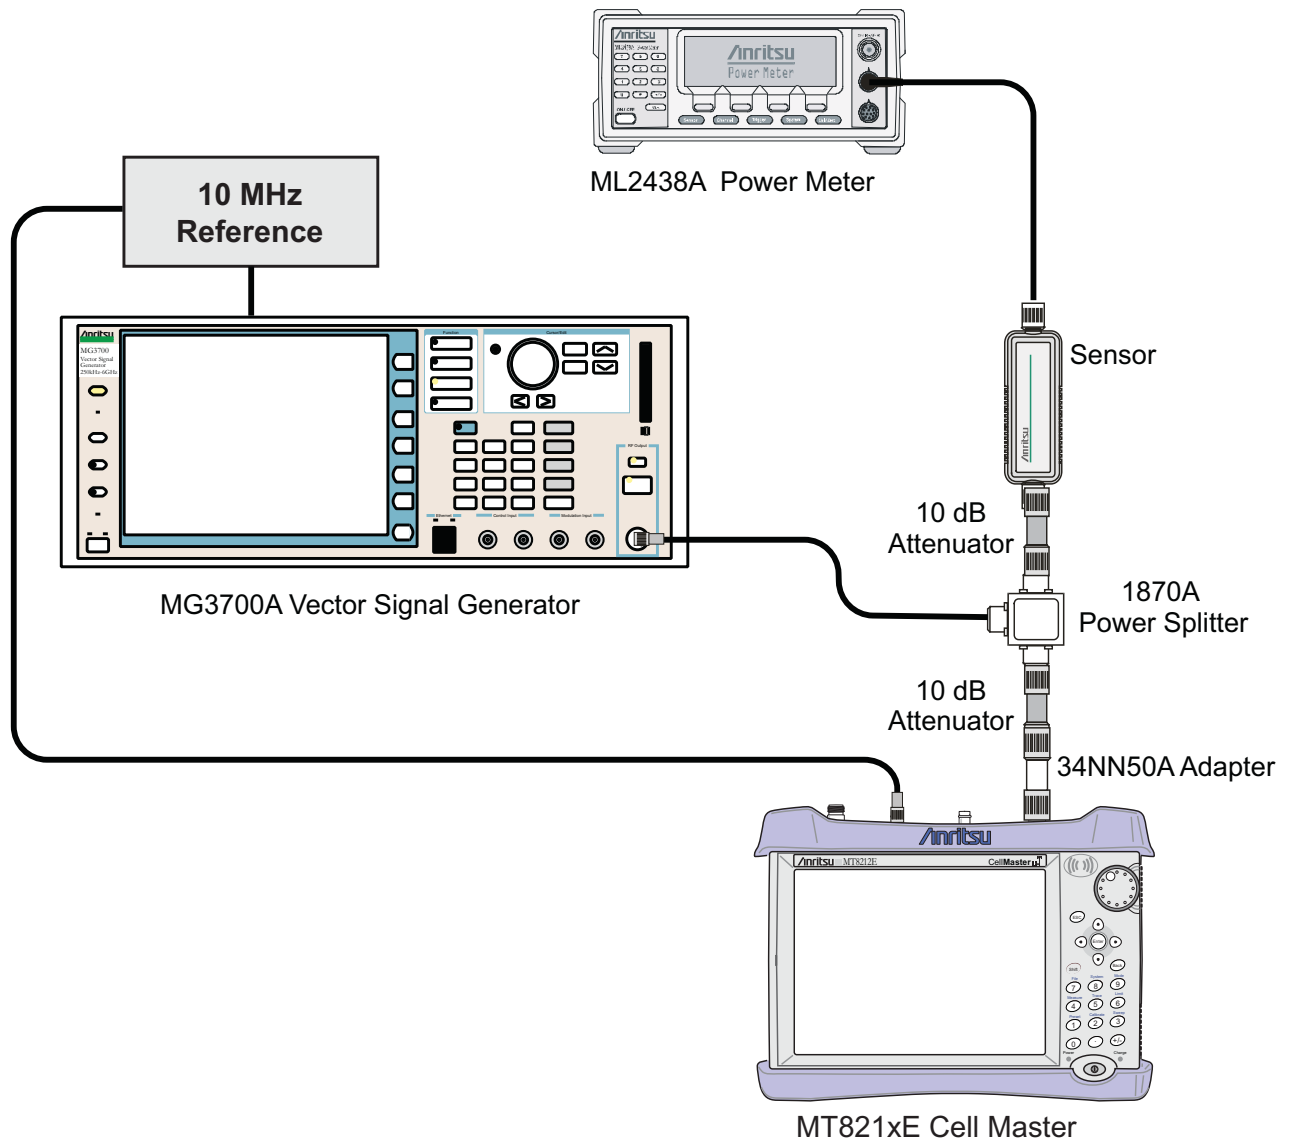

Figure 5-10. WCDMA Occupied Bandwidth (OBW) Verification
3. Connect the MG3700A, splitter, attenuator, power meter, and Sensor as shown in Figure 5-10.
4. Press the **On/Off** key to turn On the MT821xE and wait until the measurement display appears, then press the **Shift** key, and then press the **Mode** (9) key to activate the mode selection menu.
6. Press the **Shift** key, the **Preset** (1) key, and then the Preset submenu key.
3. Connect the MG3700A, splitter, attenuator, power meter, and Sensor as shown in Figure 5-10 on page 5-41.
4. Press the **On/Off** key to turn On the MT821xE and wait until the measurement display appears. Then press the **Shift** key and press the **Mode** (9) key to activate the mode selection menu.
6. Press the **Shift** key, the **Preset** (1) key, and then the **Preset** submenu key.
3. Connect the MG3700A, splitter, attenuator, power meter, and Sensor according to Figure 5-10.
4. Press the **On/Off** key to turn On the MT821xE and wait until the measurement display appears. Then press the **Shift** key and the **Mode** (9) key to activate the mode selection menu.